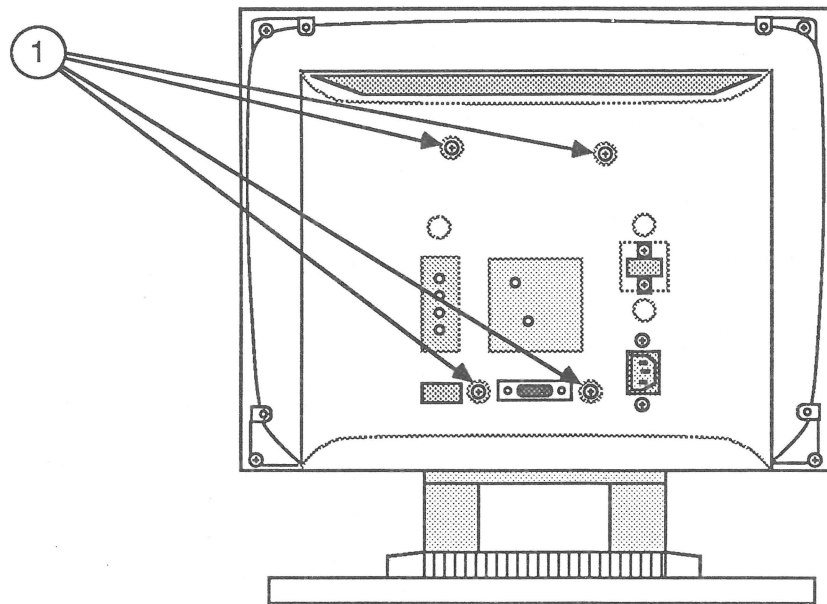

FIGURE 14
5. Replace the four screws that secure the video board to the chassis frame (Figure 14, #1).